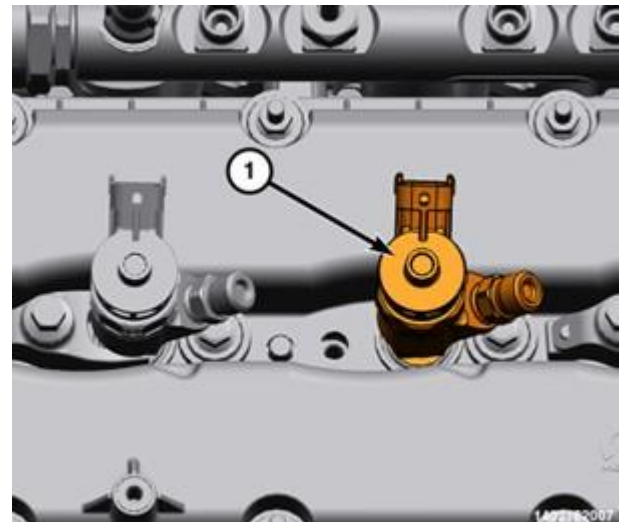

Figure 53 – Fuel Injector Bolt
96. Install the fuel injector (1) in the cylinder head (Figure 53).